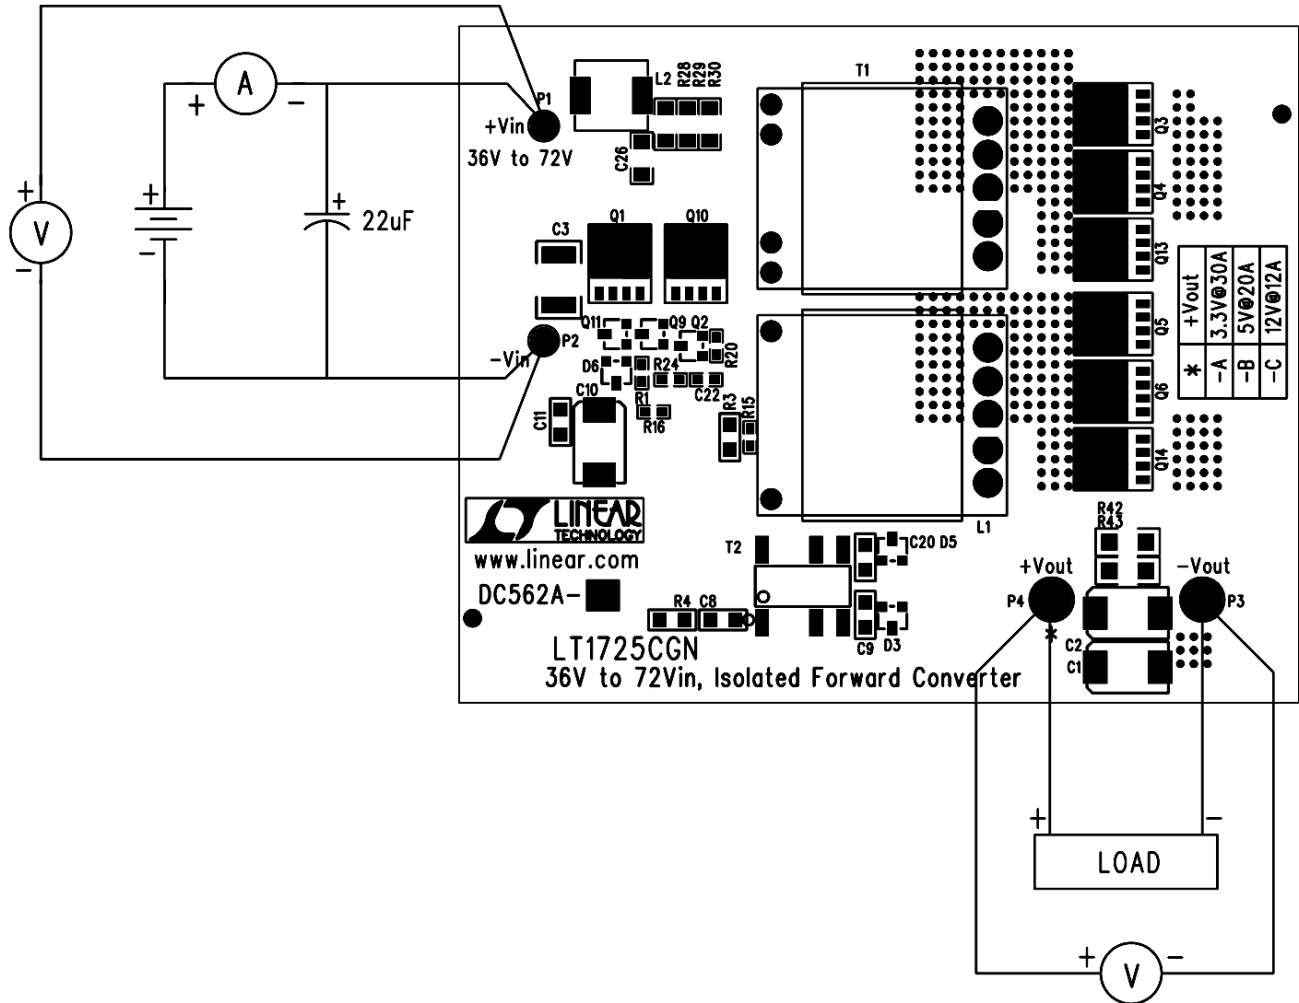

Figure 1. Proper Measurement Equipment Setup
2. Connect a 36-72V power supply, a 22 μ F 100V capacitor and meters to the Vin pins, as shown in Figure 1. Observe proper polarity.
3. Connect a 0-12A load and meters to the Vout pins, as shown in Figure 1.